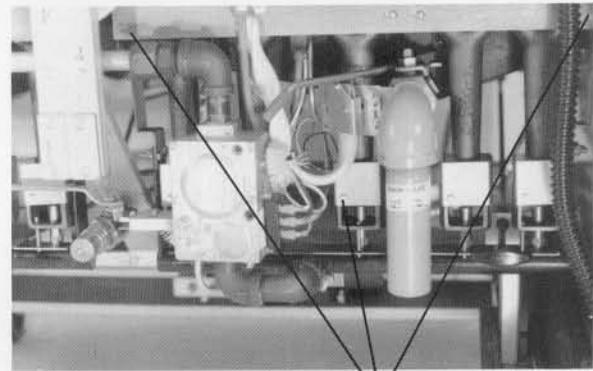

Figure 16
1. Remove 2 heat shield retaining screws (Fig. 16).
2. Remove screw from burner air shutter (Fig. 16).